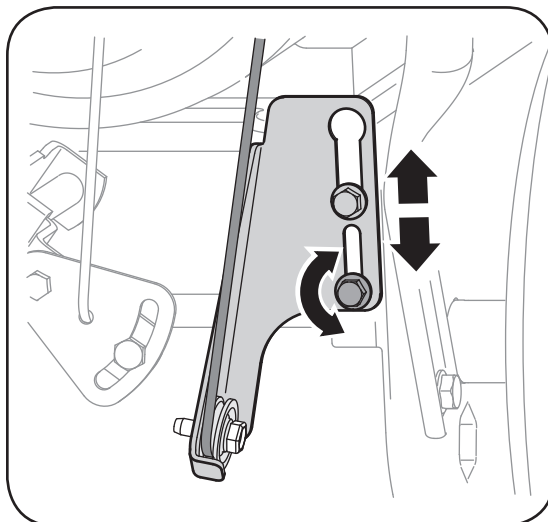

Figure 5-3
5. Loosen the lower hex nut on the drive cable bracket. See Figure 5-3.